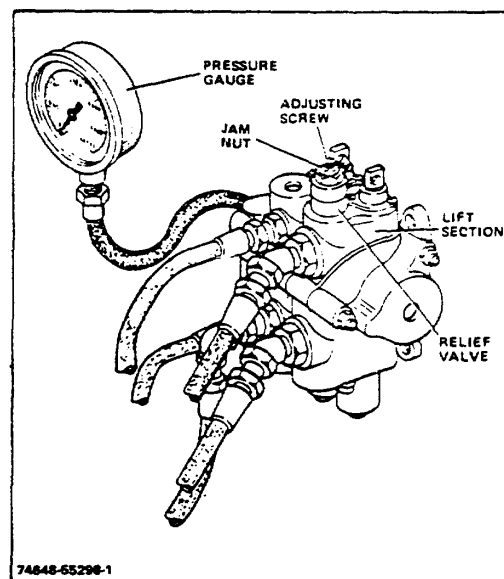

Figure 6-3. Checking Lift Section Pressure
- (1) Remove acorn nut covering the adjusting screw on top of the control valve and loosen the jam nut (Fig 6-3).
- (2) While holding lift lever back, turn adjusting screw in to increase or out to decrease relief pressure.
- (3) After pressure is properly adjusted, tighten jam nut to lock adjusting screw in position.
- (4) Recheck relief valve setting and then install acorn nut.